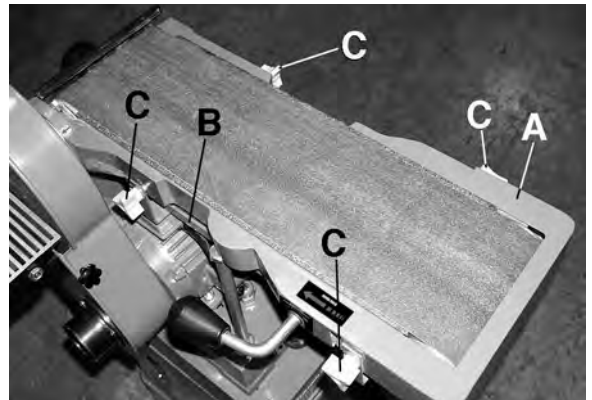

Figure 18
2. Remove both the end safety guard (A) Fig.18 and the lower safety guard (B) by undoing the 4 lock knobs (C).